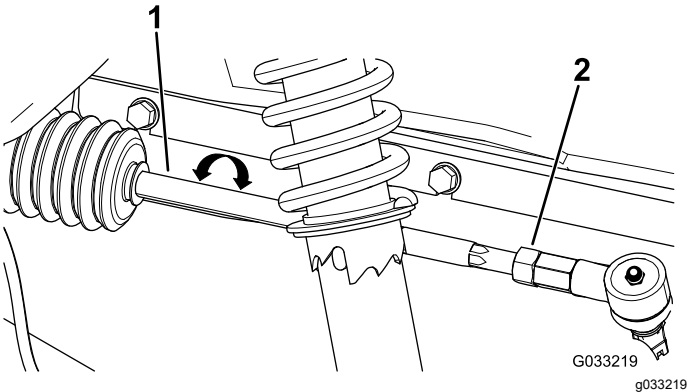

Figure 46
2. If the measurement does not fall within 0 to 6 mm (0 to 1/4 inch), loosen the jam nuts at the outer end of the tie rods (Figure 46).